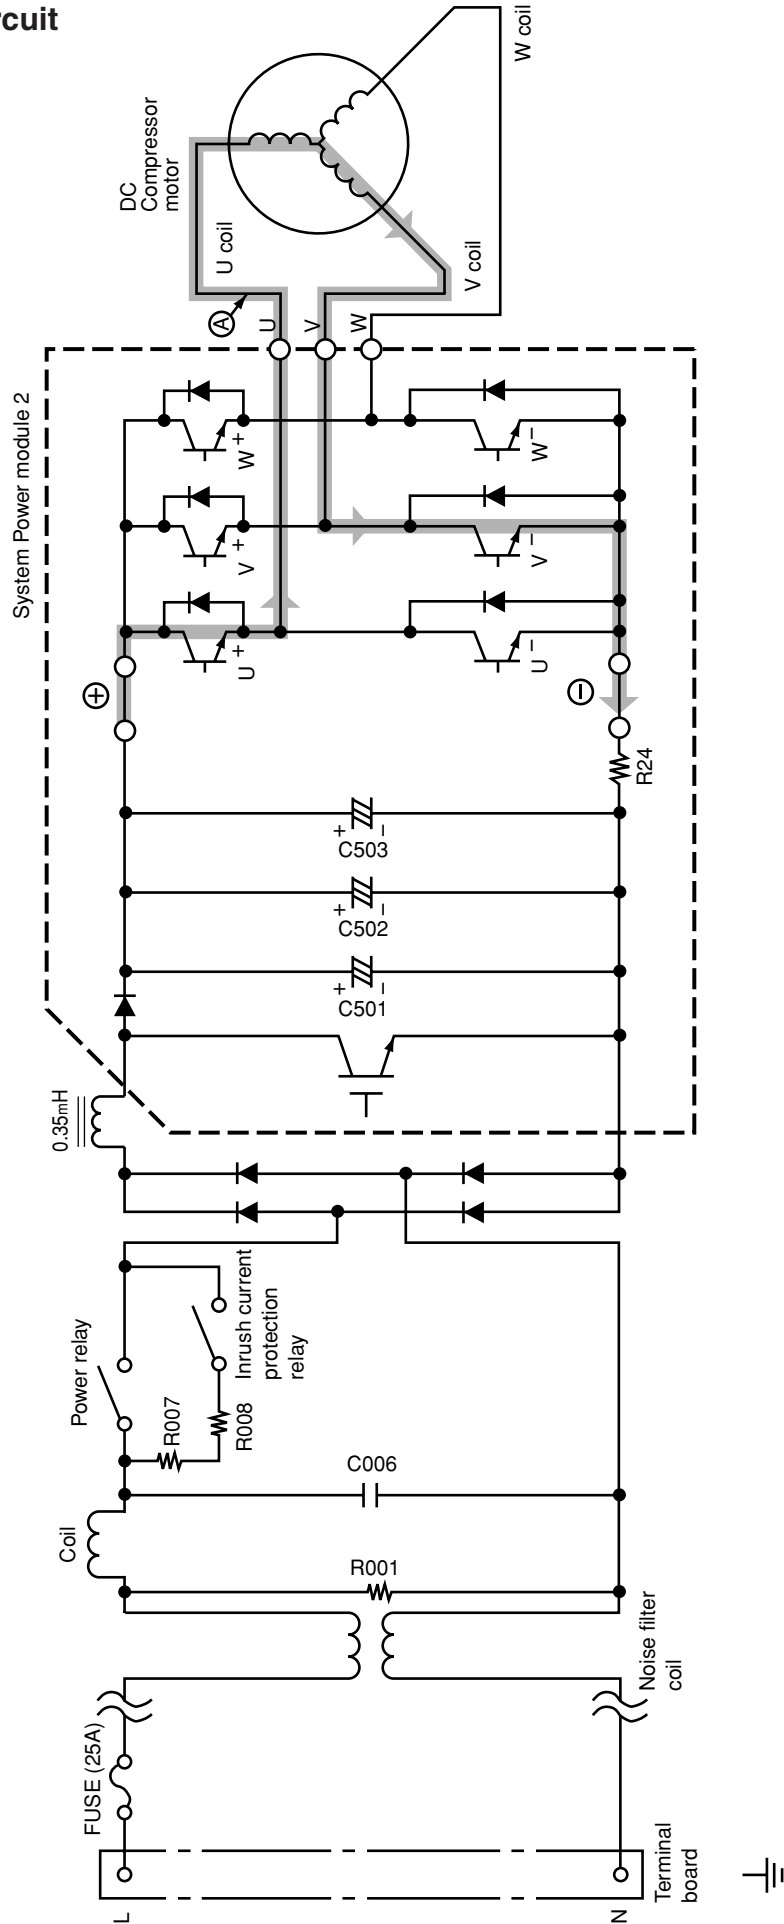
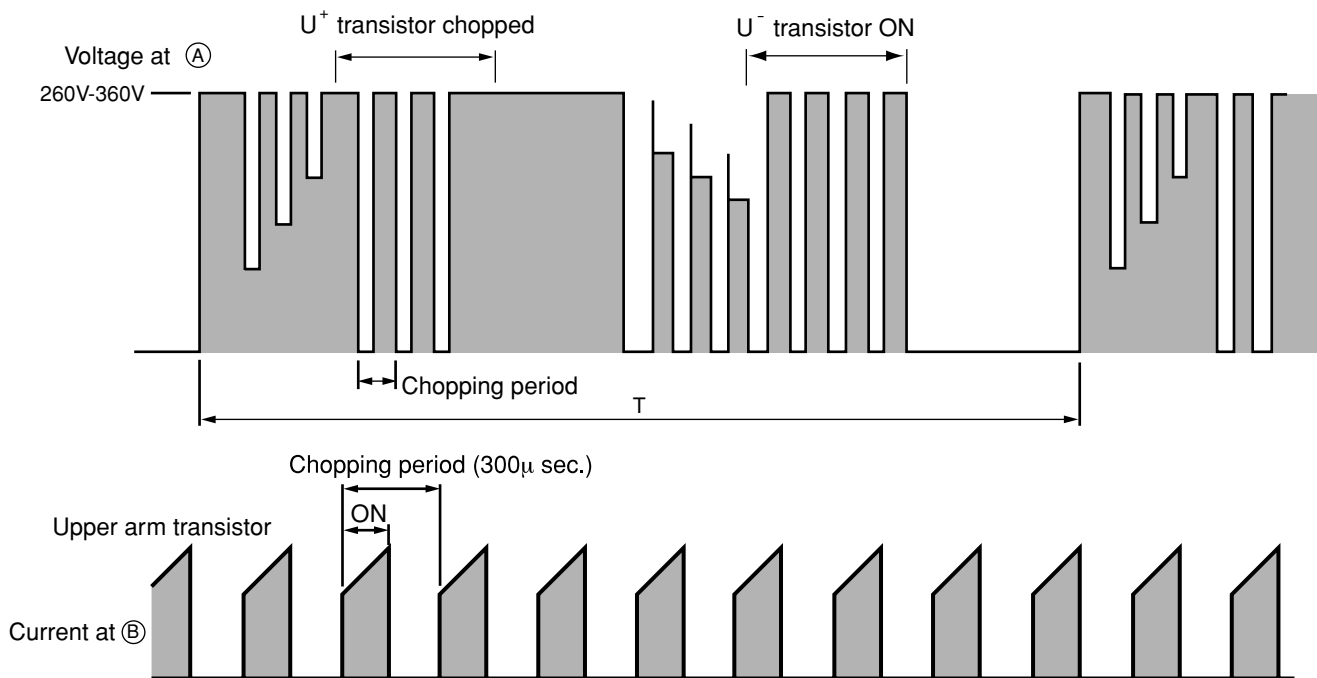

Fig. 3-1 Power module circuit (U+ is ON, V- is ON)
Fig. 3-3 Voltage waveform at each point
- Fig. 3-1 shows the system power module and its peripheral circuit. The three transistors on the positive ⊕ side are called the upper arm, and the three transistors on the negative ⊖ side are called the lower arm.
- Fig. 3-3 shows voltage waveform at each point shown in Figs. 3-1 and 3-4. First half of upper arm is chopper, second half is ON, and first half of lower arm is chopper, second half is ON.
- When power is supplied U+ → U-, because of that U+ is chopped, current flows as shown below; (B)
- (1) When U+ transistor is ON: U+ transistor → U coil → V coil → V- transistor → DC current detection resistor → Point (B) (Fig. 3-1)
- Since current flows at point B only when U+ transistor is ON, the current waveform at point B becomes intermittent waveform as shown in Fig. 3-3. Since current at point B is approximately proportional to the input current of the air conditioner, input current is controlled by using DC current (Id) detection resistor.